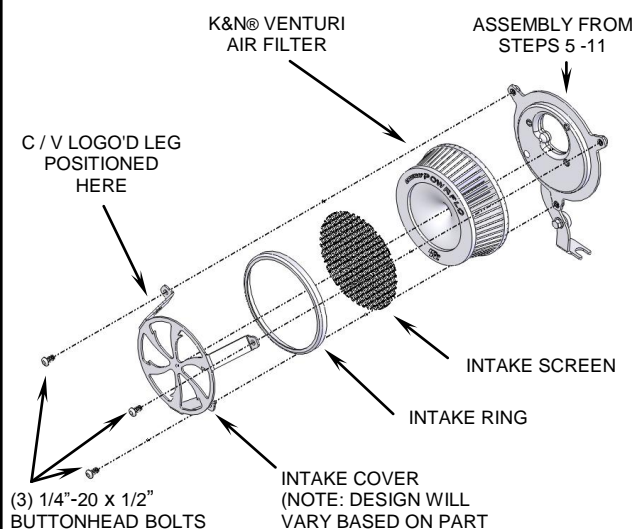

FIGURE 3
12. Place the supplied K&N® filter onto the velocity stack. Insert the round intake screen into the black ring so the screen sits inside the edge of the ring. Place the ring and screen between the legs of the naked black intake cover as shown in Figure 3.
13. Place the naked intake cover, ring and screen assembled in Step 12, over the air filter and align each leg to the base mounting plate threaded holes. Be sure screen sits at a 45 ° angle to the bottom leg, and C/V logo'd leg is at the upper left position. Insert the (3) supplied 1/4"-20 x 1/2" buttonhead bolts through the intake cover and into the base mounting plate, see Figure 3. Double check all parts are aligned properly and tighten securely.